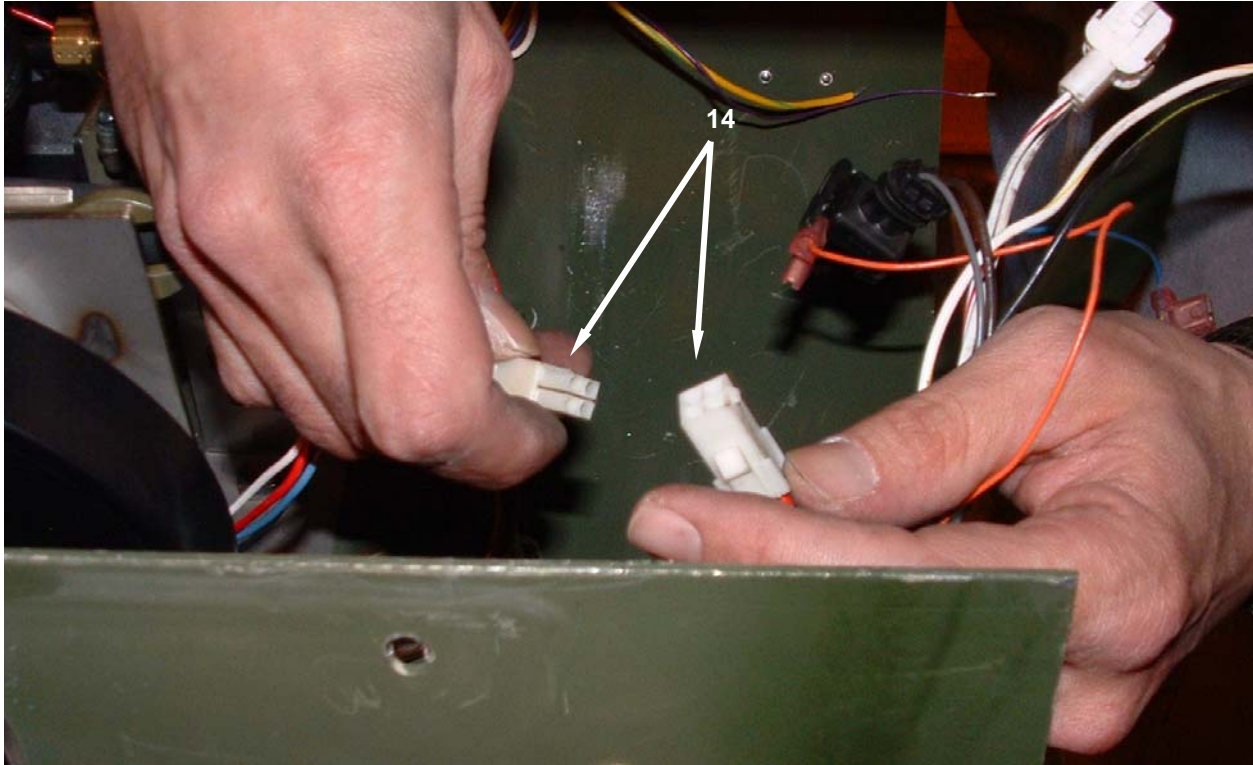

Figure 9. Replace the Electronic Box Assembly, Complete with Wire Harness – Reconnect Remaining Wiring.
20. Reconnect all remaining wiring connections (**Figure 9, Item 1**) as tagged.